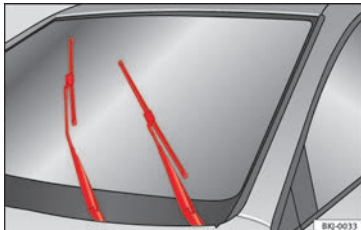

Fig. 74 Wipers in service position.
- Turn the ignition on and off and then (with in approximately 9 seconds) push the windscreen wiper lever down (short wipe). The windscreen wipers will move to the service position »» Fig. 74.